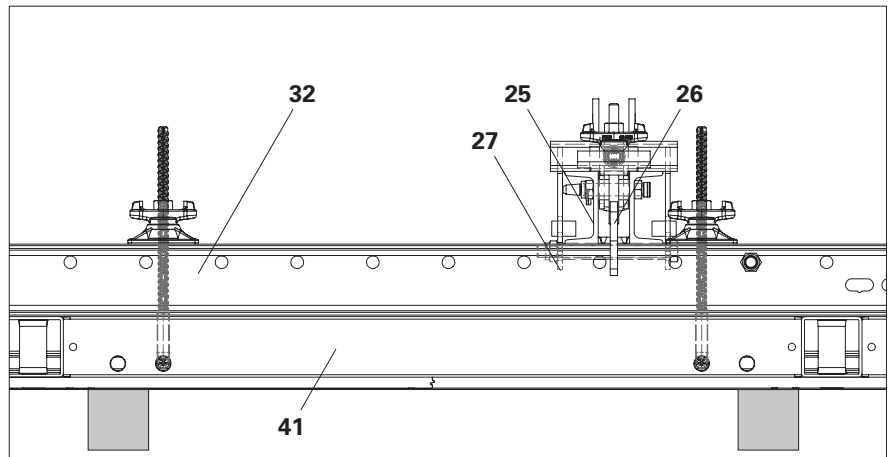

Fig. C1.01b
2. Place the Strongback SRU (25) on the walers (32) according to the plan.
3. Clamp the strongback to the upper waler (32) with Waler Fixation SRU (26). (Fig. C1.01b + C1.01c)
5. If Crossbeam Head RCS/VARIO is used: Fit the strongback adapter (35) onto the strongback with filler pin \varnothing 21 (15) and cotter pin 4/1 (16).